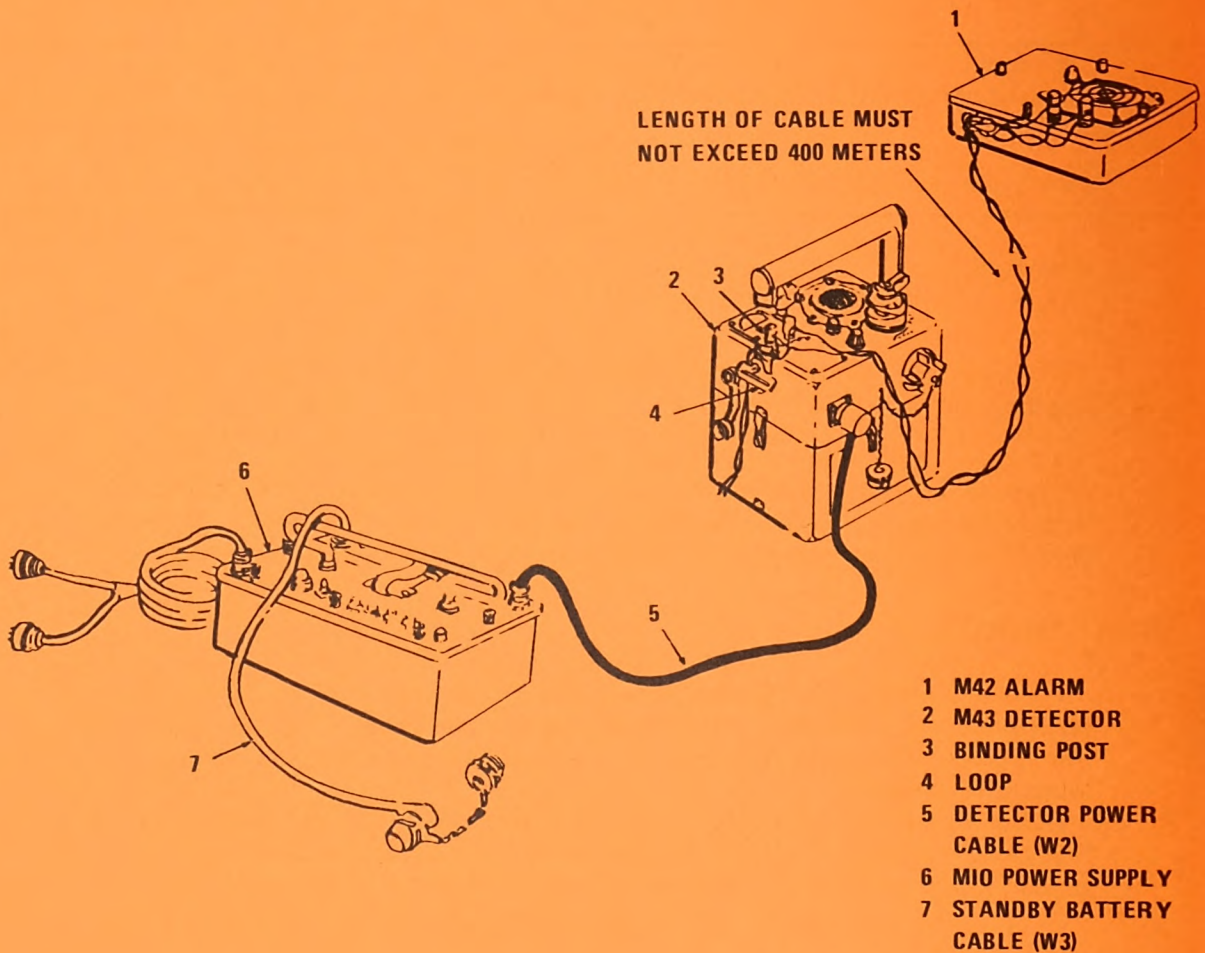

Figure 1.
2. Components of the M8 alarm system (see figure 1).